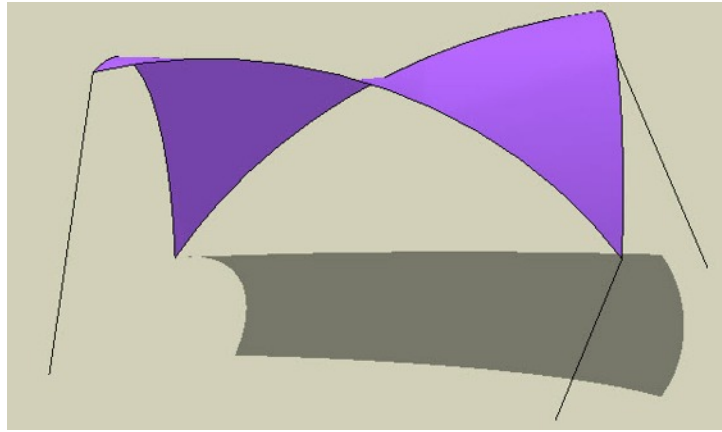

Figure 109. The canopy with material colour applied and wire stays added to 3 corners of the canopy shown here with Shadows activated
- Using the Paint Bucket apply a suitable colour to the canopy face as shown in Figure 109.
- Use the Line tool and draw lines from each of the 3 corners of the canopy to simulate 'wire stays' as shown in Figure 109.